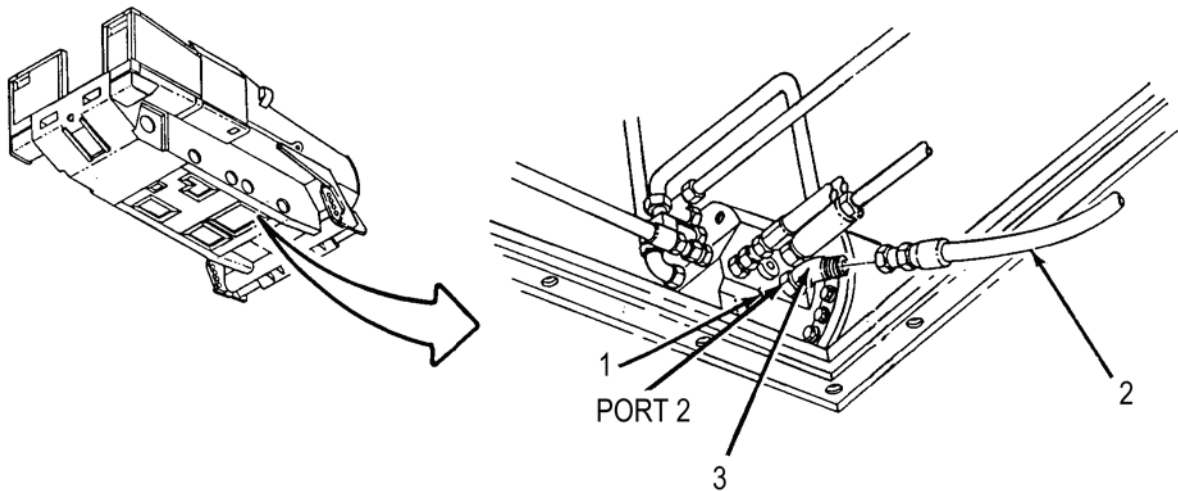

Figure 4. No. 1 Right Actuator Depicted
- Disconnect NO 1 SPNSN UNIT-2 hose (Figure 4, item 2) from elbow (Figure 4, item 3) at port 2 on No. 1 actuator (Figure 4, item 1). Cap elbow (Figure 4, item 3) and plug hose (Figure 4, item 2).